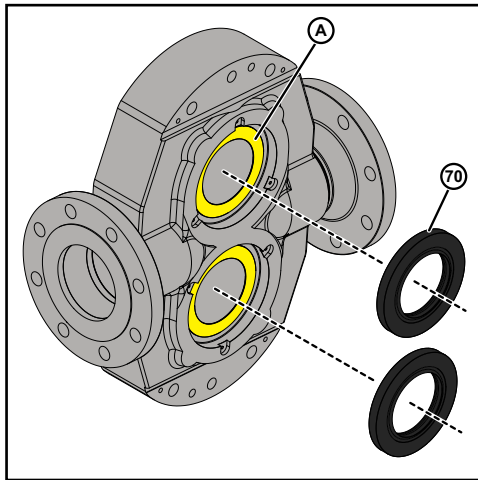

Figure 87 - Remove Lip seals
3. Remove and discard the lip seal (70) by using suitable tool like claw hammer/screw driver etc.
4. Remove the thin bead of silicone sealant (A) from the body, as shown in Figure 87.